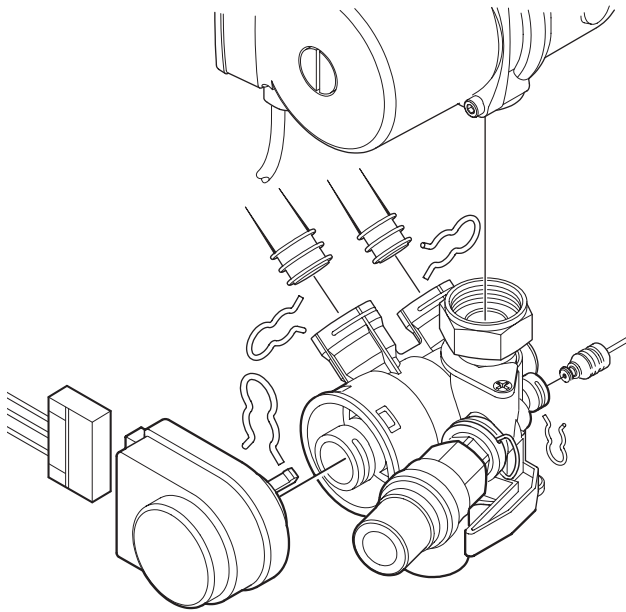

Fig. 64
- ▶ Unplug connector from 3-way valve motor. Refer to fig. 64.